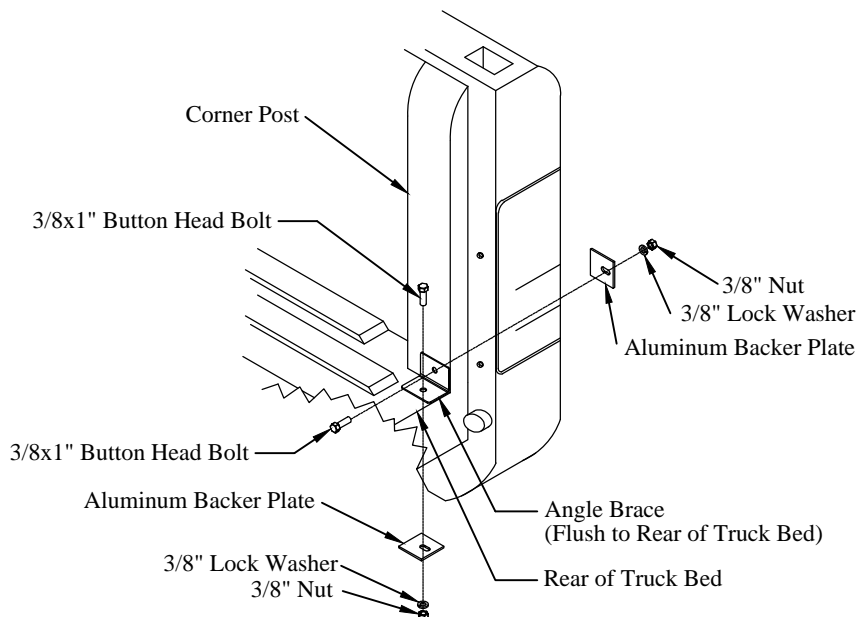

Figure 9: Angle brace location.
2. **Position** each angle brace flush with the rear of the truck bed, where the truck bed meets the corner post (Figure 9).
6. **Install** the angle braces on the truck using the 3/8" button head bolts, aluminum backer plates, lock washers, and nuts (Figure 9).